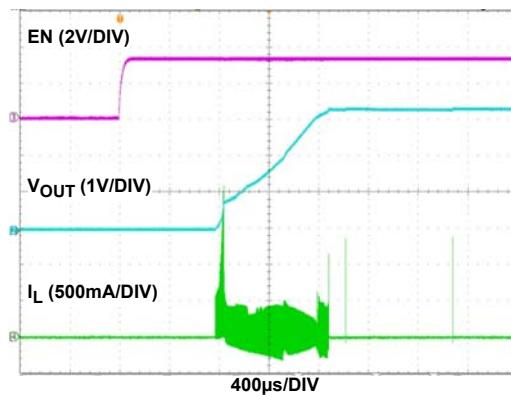

FIGURE 2. START-UP WITH  $V_{IN} = 3.6V$  AND  $V_{OUT} = 3.3V$ , NO LOAD
Refer to the following Quick Setup Guide to configure and power up the board for proper operation. During the power on process, the expected waveforms are shown in Figures 2 and 3.
7. Monitor the output voltage start-up sequence on the scope. The waveforms will look similar to that shown in Figures 2 and 3.